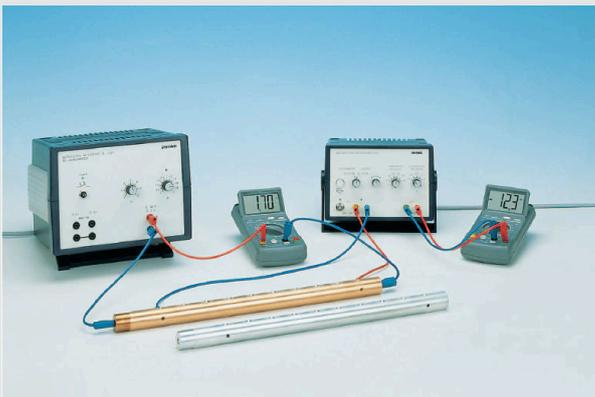

Fig 1: Experimental set-up
1. Connect the metal rod to the mains with an ammeter. Measure the voltage drop across the rod at two sockets on the side, using the amplifier (four-wire method of measurement, see Fig. 1).